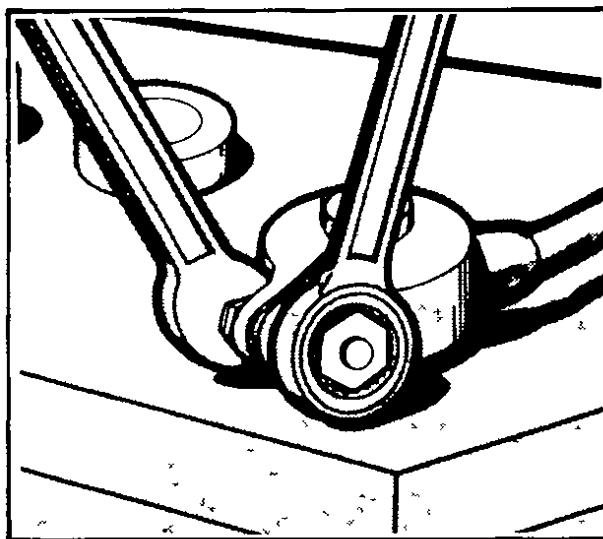

Fig 60 Installing battery cables
- 4 Coat the battery terminals lightly with heavy grease after replacing and tightening the cables, Fig 60 Be sure cables are replaced on the correct terminals The negative (–) terminal of the battery goes to ground and it should always be connected last and removed first to avoid sparks